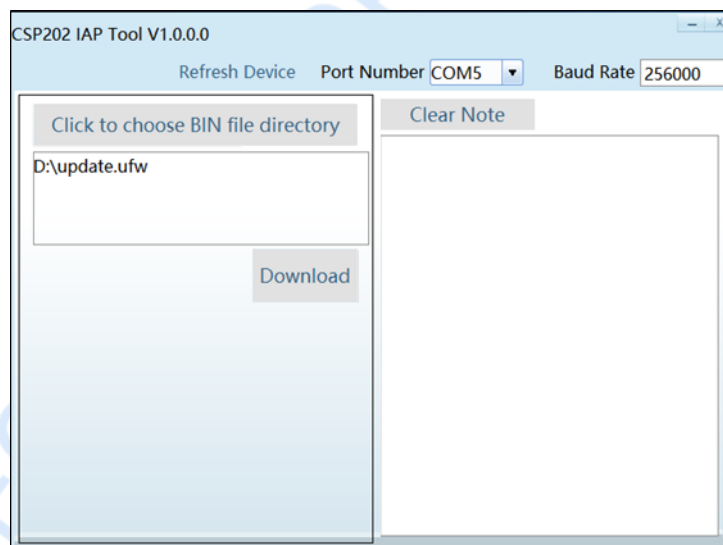

Figure 4-17 CSP202 IAP Tool
Step 3: On the GUI of the IAP Tool, click the **Refresh Device** button, select the COM number of CSP202TE module, set the baud rate to 256000, as shown in Figure 4-17;